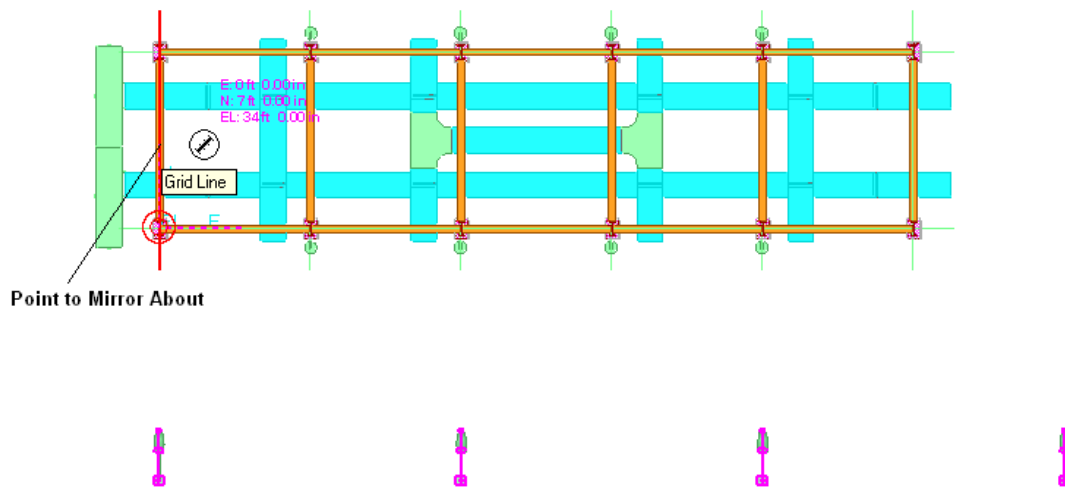

Figure 15: Point to Mirror About
39. Select the midpoint of the beam as the **Point to Mirror About**, as shown in Figure 15.